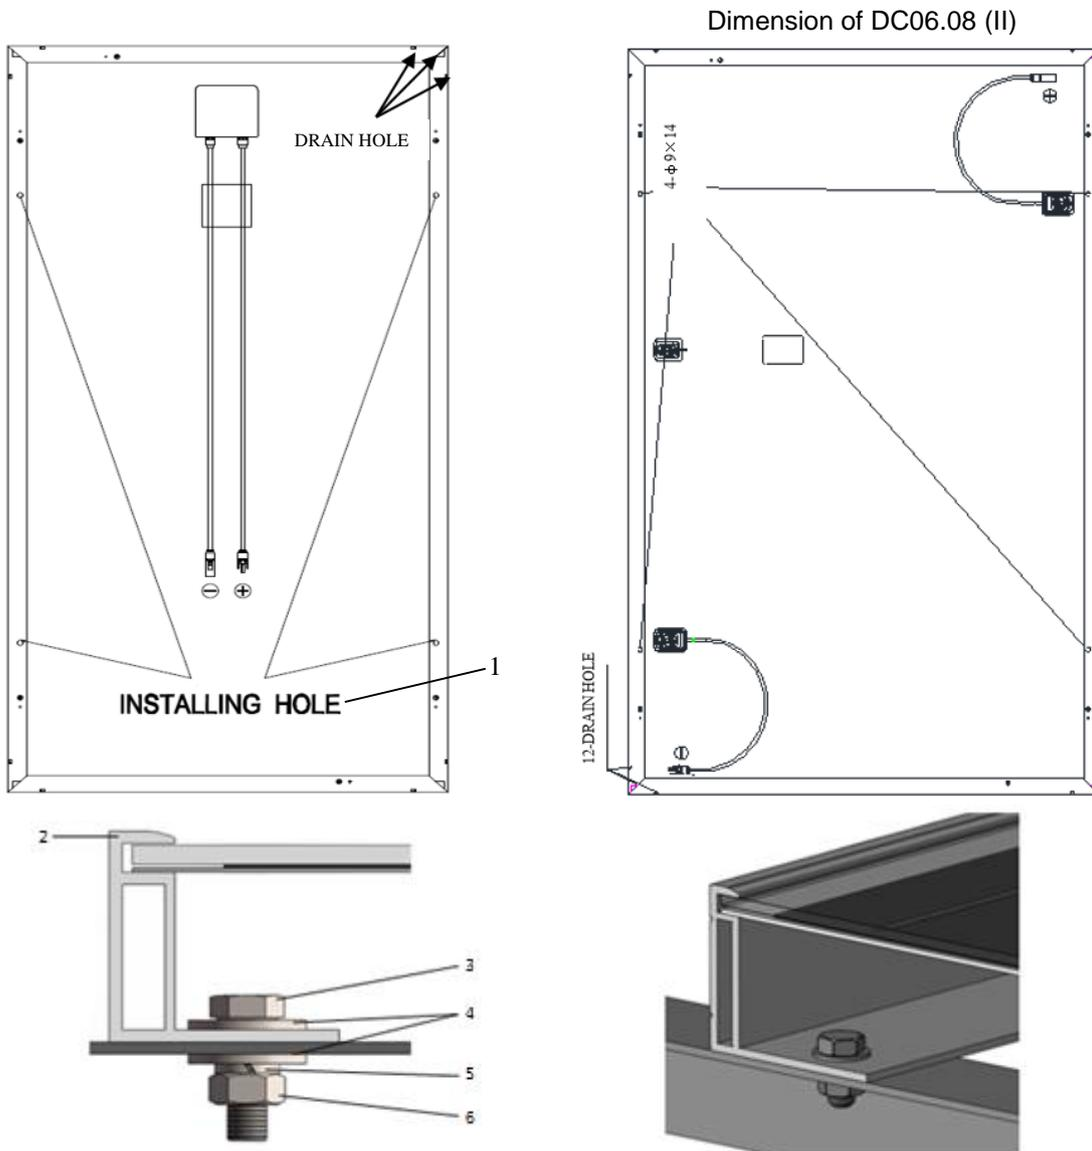

Figure 1. PV module installed with Bolt fitting method
- Secure the module in each fixing location with an M8 bolt and a flat washer, spring washer and nut as shown in Figure 1 and tighten to a torque of 16~20 N.m(140-180lb.in.).